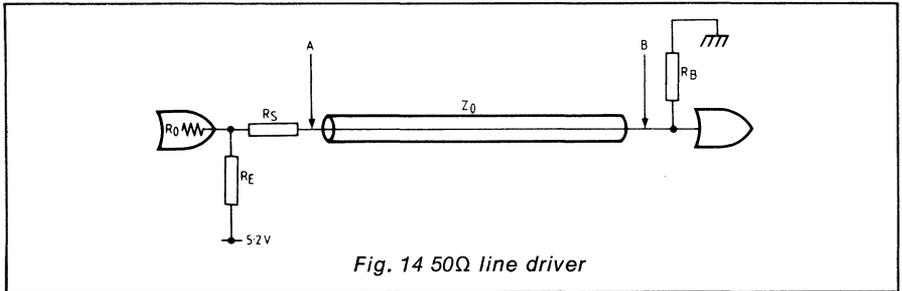

Fig. 14 50Ω line driver
Voltage drops across R_s limit loading to less than 10. However, multiple Z_0 lines, with separate R_s resistors may be used. Overall slower propagation delay in series terminated mode may be a disadvantage, partly overcome by multiple transmission lines. This leads to the final line termination form, Fig. 14.
It can be seen from Fig. 14 that the driver is doubly terminated, and resembles both series and parallel systems. At the distant (B) end of the line,